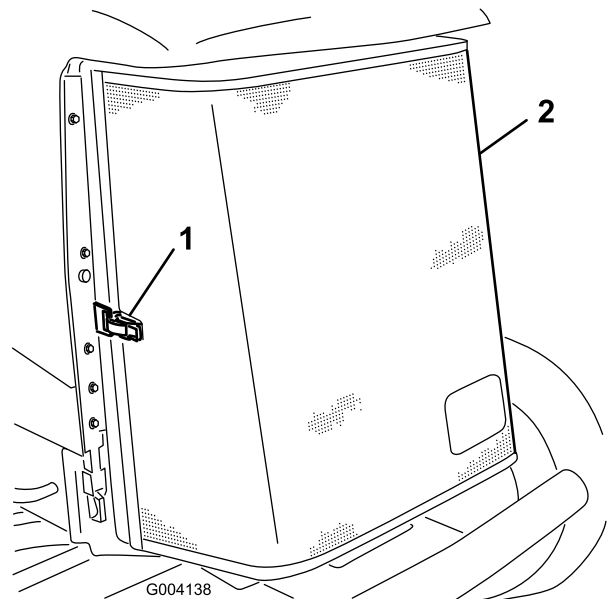

Figure 65
3. Unlatch the clamp and pivot open the rear screen (Figure 65).